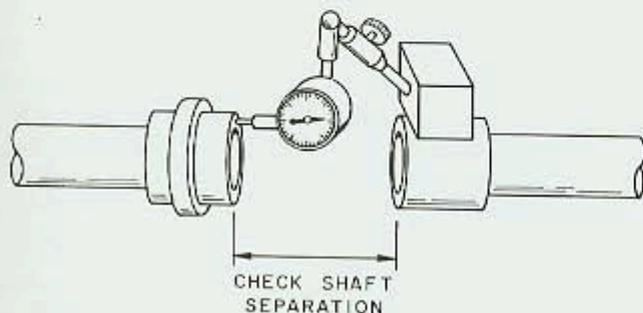

Figure 4
7. Check ANGULAR misalignment using an inside micrometer, feeler gage or calipers and measure the coupling separation at 90 degree intervals on the outer diameter of the faces on the coupling hubs. Move the Driver and shim as necessary until ANGULAR alignment is within .002" (.05mm) TIR as shown in Figure 4.